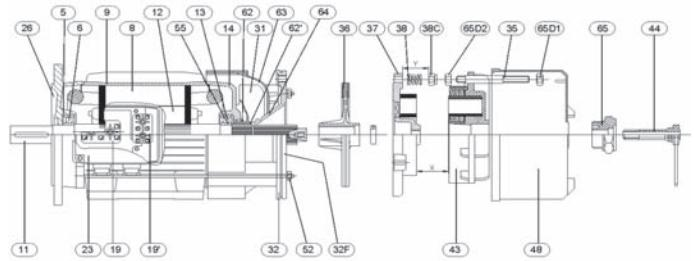

Figure 13, Two-speed Brake Motor, ABK 3
- The procedure for resetting the air gap, figure 13, is as follows:
- Remove the anti-lock out key (44), if it is mounted.
- Unscrew and remove the screw (65) that tightens the casing (48)
- Loosen the nuts (65D2). Then, placing a gauge of thickness 0.5mm into the air gap "x", move the body of the coil of the magnet (43) to the free yoke (37).
- Complete the operation by assembling and locking in the protective casing (48).